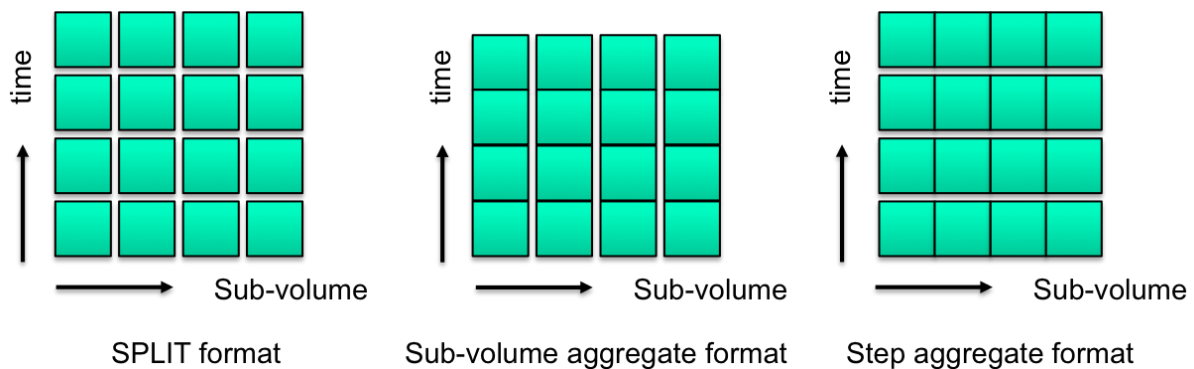

Figure4.3-1 Output file formats available for PBVR Filter
This section describes the file formats that are read or written by PBVR Filter. All binary data in input and output files are single precision, without a header or footer, and in little endian format. The following three file formats are available: (1) the split format (which actually make use of kvsmf format), (2) the sub-volume aggregate format, and (3) the step aggregate format (Figure4.3-1). The split format generates independent files for each time step for each sub-volume. However, in this format, the number of files grows exponentially as the number of layers in the octree increases. This problem can be avoided by using either of the other two file formats. The sub-volume aggregate format aggregates files over different time steps (but for the same sub-volume) to a single file. Conversely, the step aggregate format aggregates files over different sub-volumes (for the same time step) to a single file. The following sections explain these three file formats in detail.